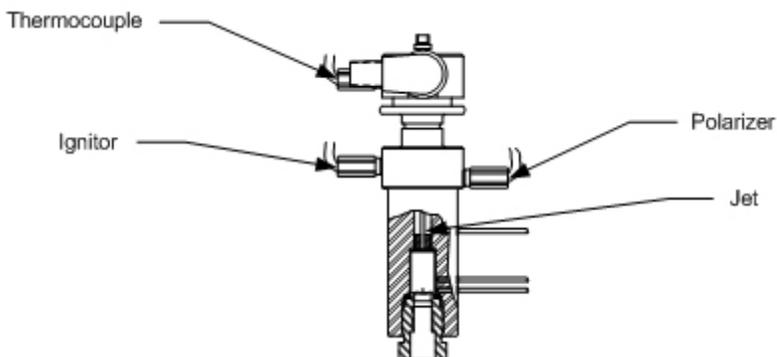

Fig. 8.10. FID Components
8.3.6 Flame ionization detector (see Figure 8.10)